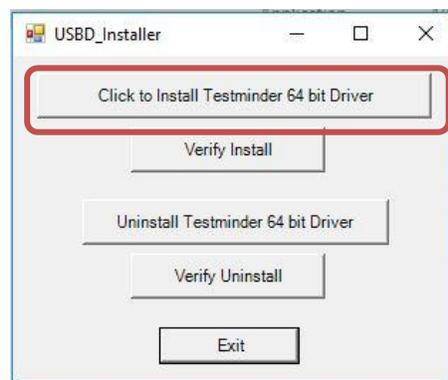

Figure 21 Driver install screen
6. On the screen that pops up, click on the button “Install Testminder 64 bit Driver” (Figure 21)
- When driver installation is complete, the installation windows will close automatically. If you want to verify that the driver was properly installed, either click on the “Verify Install” button (Figure 21), you will get a little pop up confirming the installation, or to be sure go to “Control Panel” on your PC and open up “Device Manager”, look for “Jungo Connectivity” and under it you should have “**Compliance West USBD**”(Figure 23)..